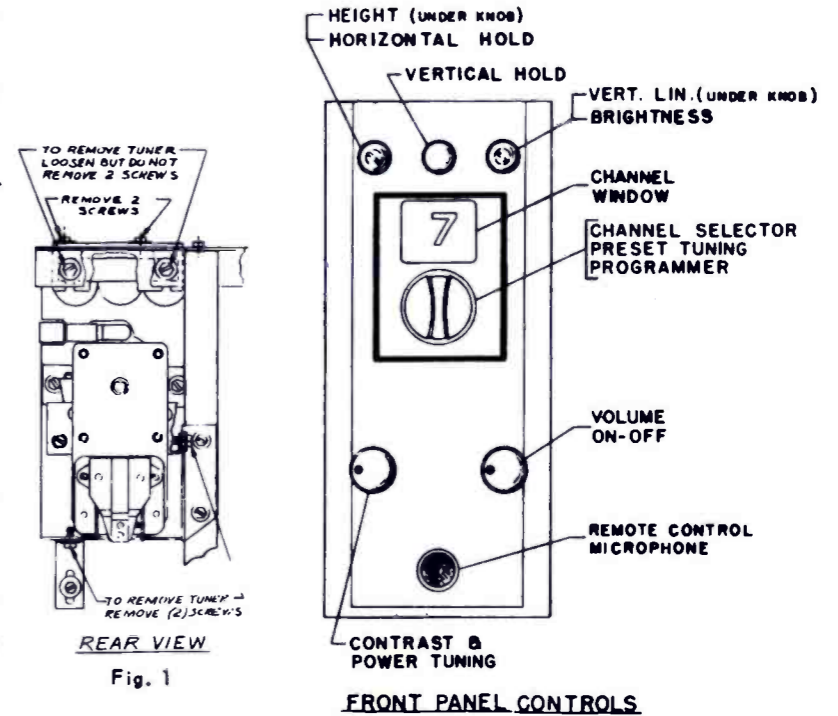

Fig. 1
- (1) Remove knobs.
- (2) Disconnect leads from antenna terminal board.
- (3) Loosen or remove screws as shown in Fig. 1.
- (4) Lift Tuner upward and away from mounting board.
- (5) Disconnect yoke plug from socket.
- (6) Disconnect socket from tube base.
- (7) Remove high voltage clip from picture tube.
- (8) Disconnect speaker wires at audio output transformer.
- (9) Remove five (5) chassis bolts from underside of mounting board and remove chassis.